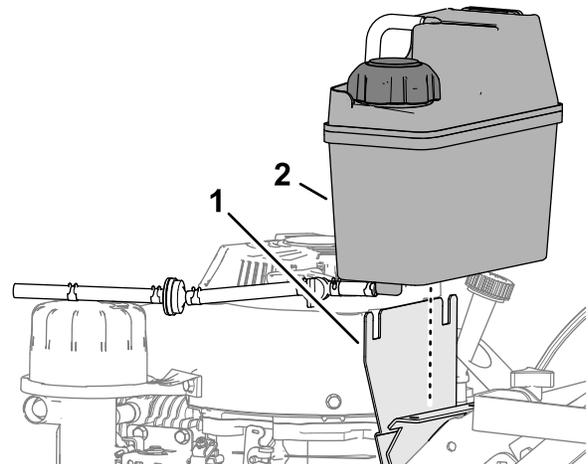

Figure 38
2. Lift the tank from the bracket (Figure 38).